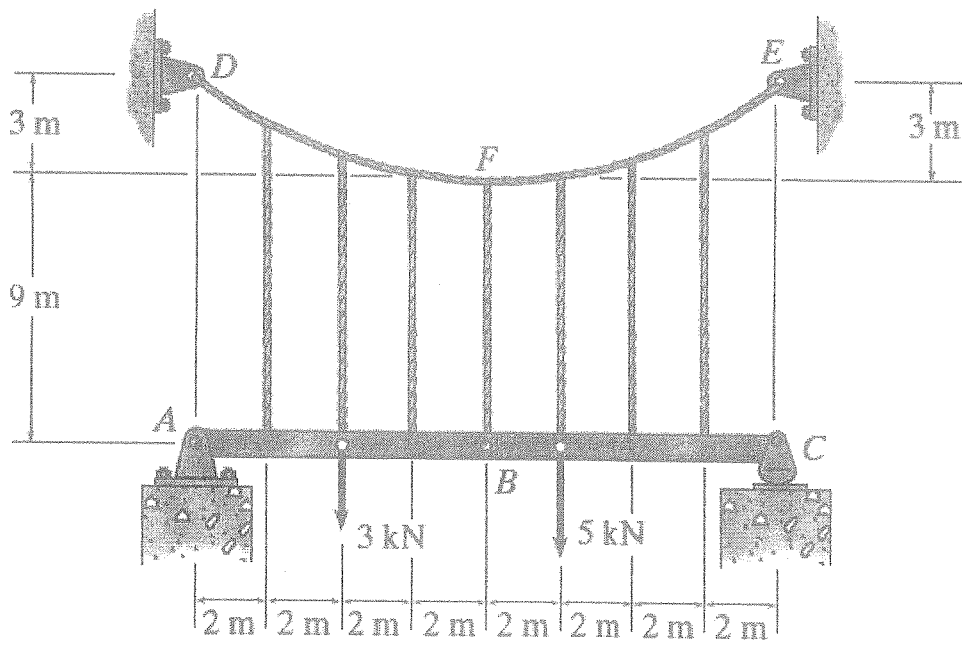

Fig. Q5
- b) A suspension bridge is built across a river in the suburb of Galle town to facilitate passenger movements as shown in Fig. Q5. The girder beam ABC which supports the passage of the bridge contain a hinge at the center B. The beam is hanged to the main cable in parabolic shape by equally space hangers. Determine the maximum and the minimum tension force in the cable, and tension force in the hangers.